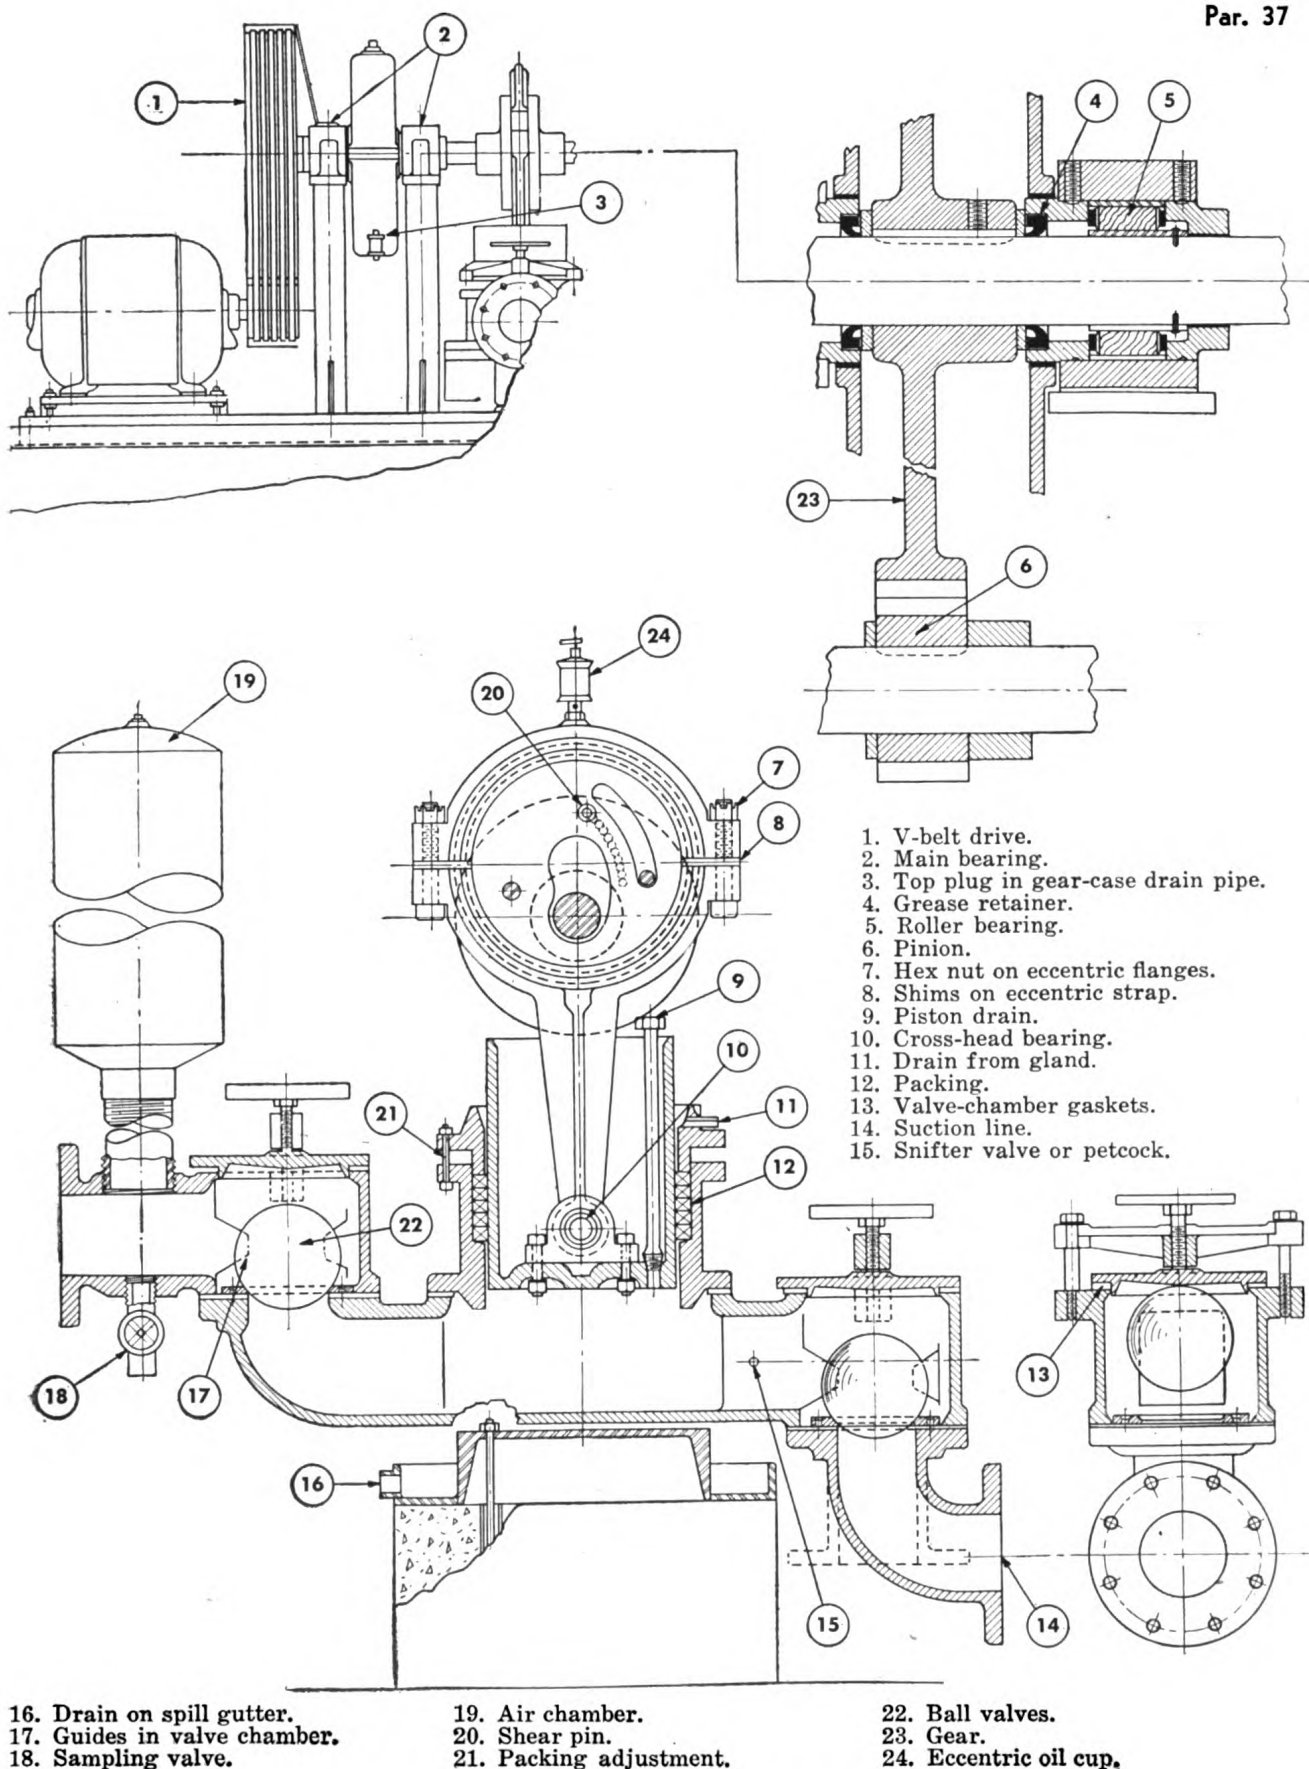

Figure 14. Marlow sludge pump.
b. CHECK OIL LEVEL IN TYPE PE REDUCTION-GEAR CASE. Fill reduction-gear case on PE pumps with NS 5150 to level indicated by top plug in drain pipe (No. 3, fig. 14). Maintain level at all times.
f. LUBRICATE CROSS-HEAD BEARING. Lubricate cross-head bearing at bottom of plunger (No. 10, fig. 14) with OE 30. Fill plunger to cover the pin.